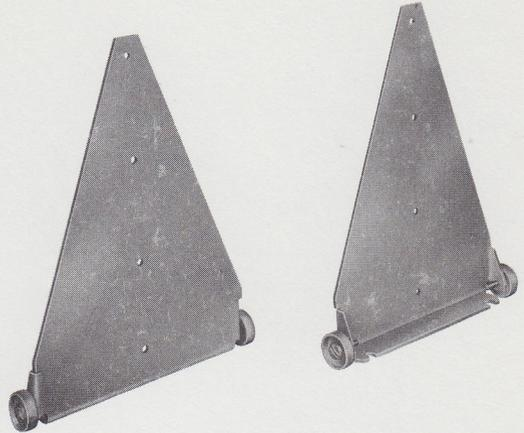

Fig. 46—Bracket Assembly per ED-69366-50, Group 2
10.05 The bracket assembly per ED-69366-50, Group 2 (Fig. 46) has two wheel-equipped support plates needed to install a 26A apparatus mounting on the floor or in the floor-supported cabinet per ED-69366-50, Group 1. Eight RHM screws are furnished with the assembly. Nylon wheels are replaceable as Simmons Fastener Corp. Springlock Roller Assembly G-1300A-1343.